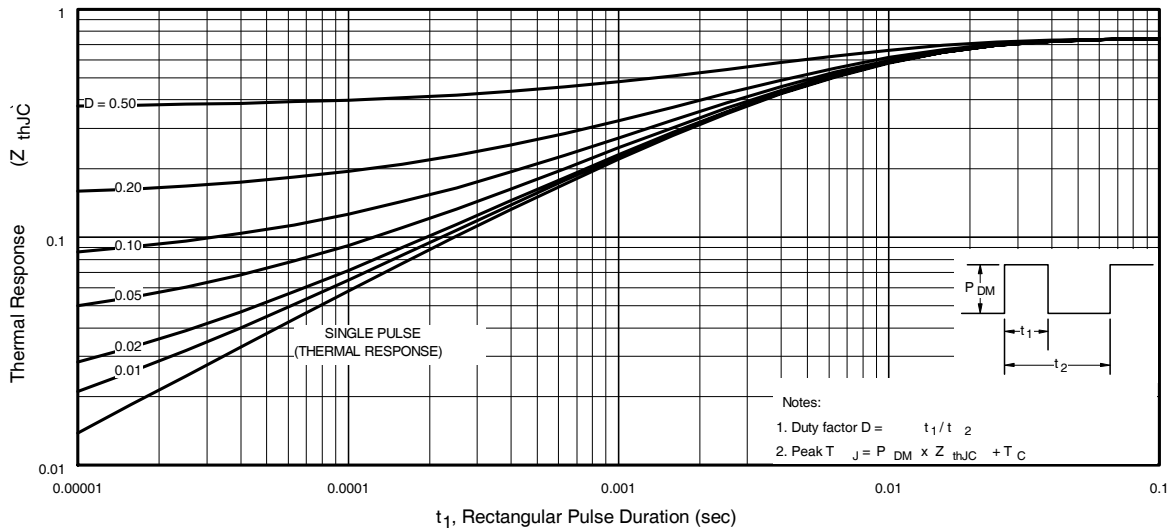

Fig 11. Maximum Effective Transient Thermal Impedance, Junction-to-Case
- ① Repetitive rating; pulse width limited by max. junction temperature. (See fig. 11).
- ② Starting $T_J = 25^\circ\text{C}$, $L = 0.24\text{mH}$
$Z_{thJC}(D, t_{av})$ = Transient thermal resistance, see figure 11)